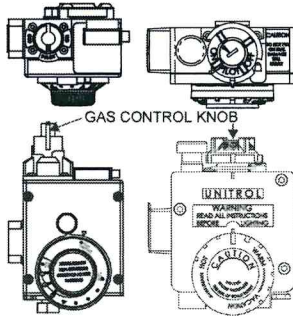

Figure 8
1. Turn the water heater gas control knob to "off" and allow the burner area to cool completely, approximately 15 minutes, see Figure 8.